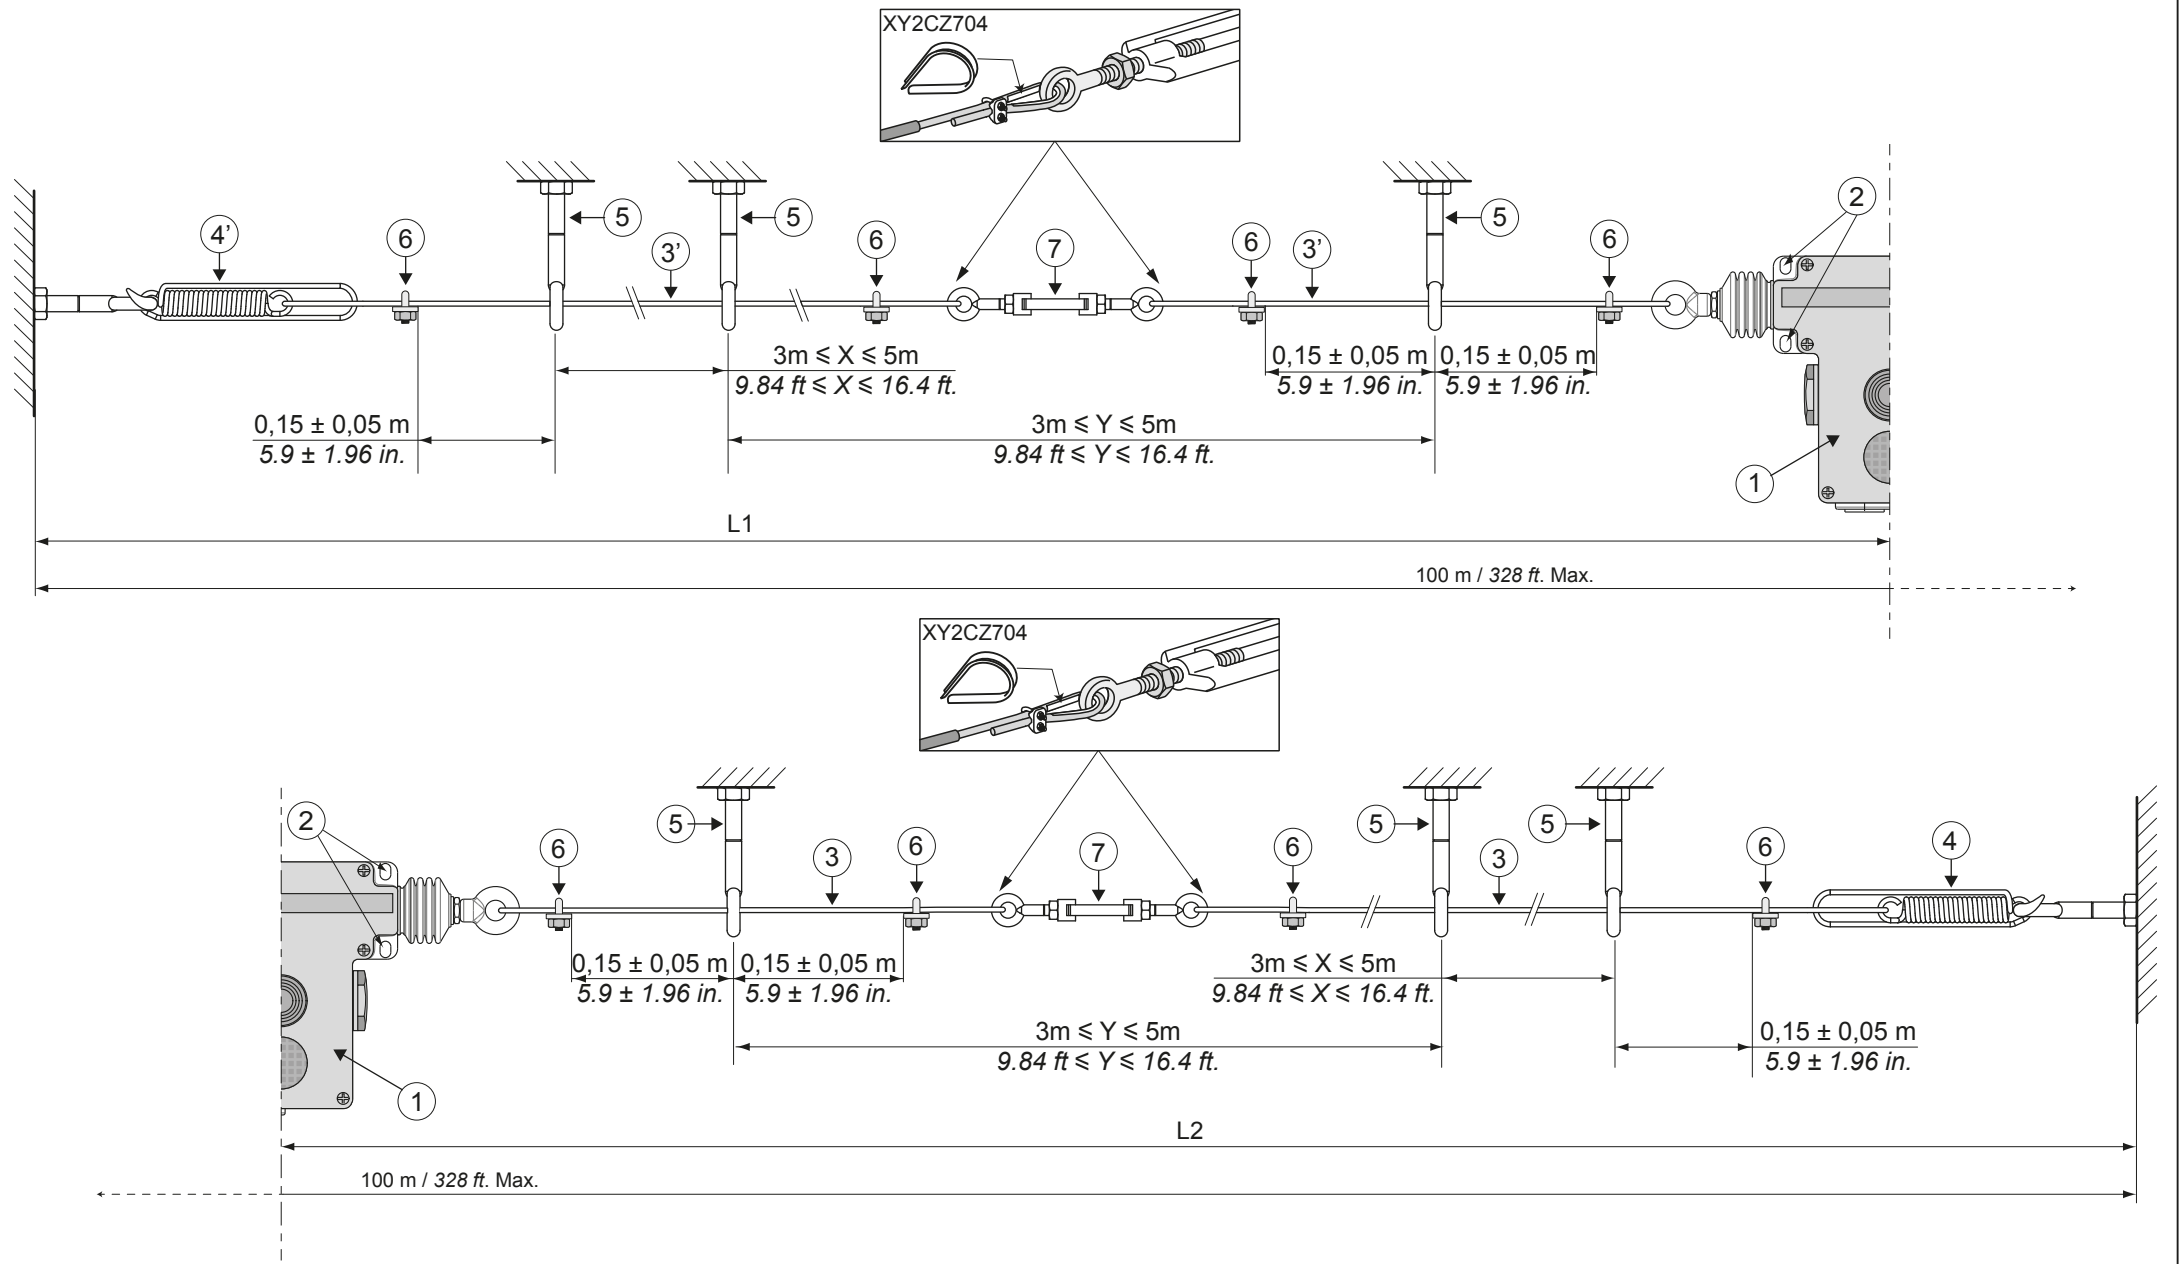

Fig.4
- Mount the device ① to a rigid support using 4 M6 cylindrical head screws through holes ② (tightening torque = $4 \pm 0,5$ N.m / 2.95 ± 0.37 lb.ft).
- Securely fasten the cable guides ③ to rigid elements in compliance with the specified distance.
- Attach the end springs ④ and ⑤ to a rigid element.
- Remove the cover from the device ① by unscrewing the 6 screws ⑥ (fig. 4).